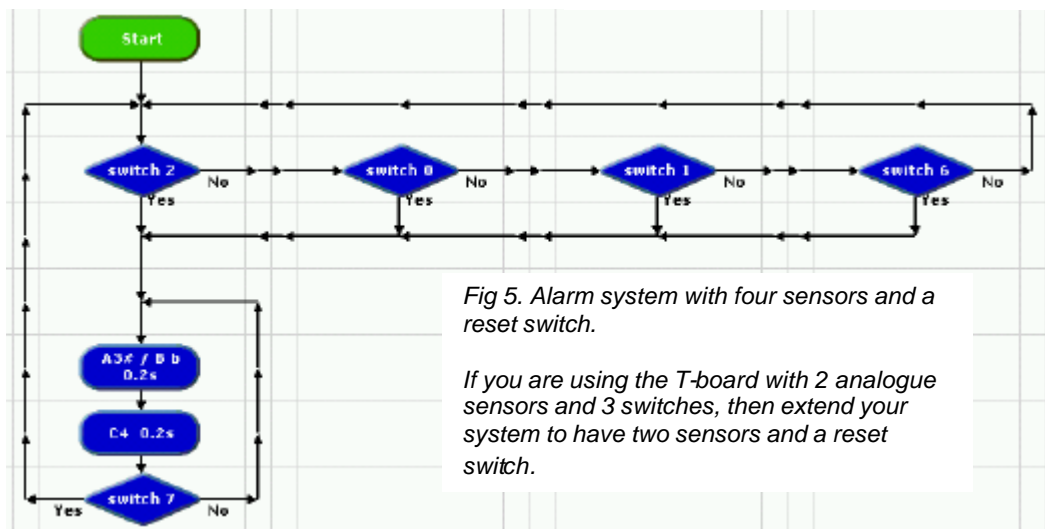

Fig 5. Alarm system with four sensors and a reset switch.
1. Develop your system further so that it includes four different sensors that could be in different parts of the house. Fig 5 shows how to do it.